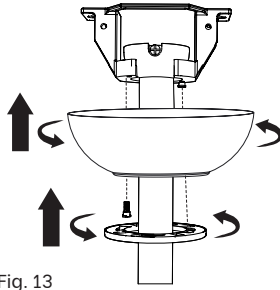

Fig. 13
4. Remove one of the two preassembled shoulder screws on the hanging bracket and loosen the second shoulder screw without fully removing it. Slide the canopy upwards to cover the hanging bracket and rotate the canopy so the second shoulder screw moves into the small opening of the keyslot. Ensure all electrical wiring is tucked inside the canopy and that they are not damaged. Tighten the shoulder screw. Re-install the previously removed shoulder screw to fully assemble the canopy to the hanging bracket (Fig.13).
- Securely attach and tighten the canopy cover over the shoulder screws in the hanging bracket, utilizing the keyslot twist-lock feature (Fig.13).